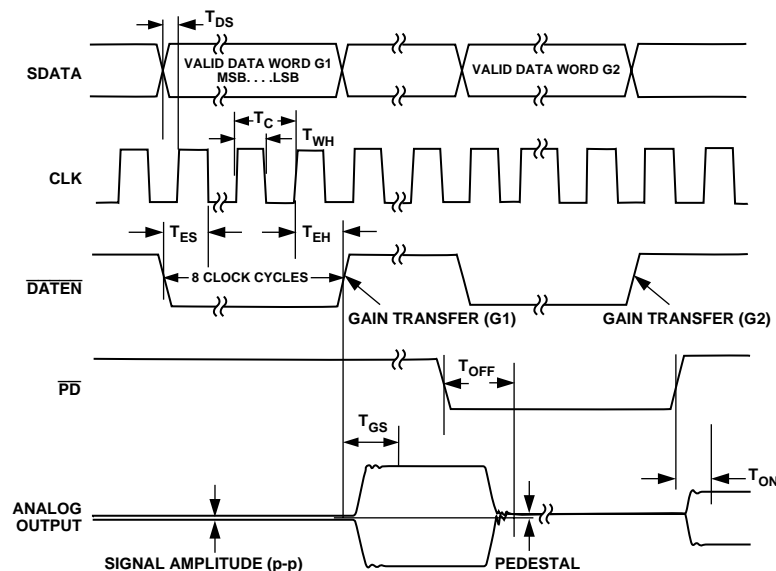

Figure 43. Serial Interface Timing
To update the AD8320 gain, the following digital load sequence is required. The attenuation setting is determined by the 8-bit word in the data latch. This 8-bit word is serially loaded (MSB first) into the shift register at each rising edge of the clock. See Figure 43. During this data load time (T), $\overline{\text{DATEN}}$ is low and the data latch is latched holding the previous (T – 1) data word keeping the attenuation level unchanged. After eight clock cycles the new data word is fully loaded and $\overline{\text{DATEN}}$ is switched high. This enables the data latch (becomes transparent) and the loaded register data is passed to the attenuator with the updated gain value. Also at this $\overline{\text{DATEN}}$ transition, the internal clock is disabled, thus inhibiting new serial input data.
The timing diagram for AD8320's serial interface is shown in Figure 43.